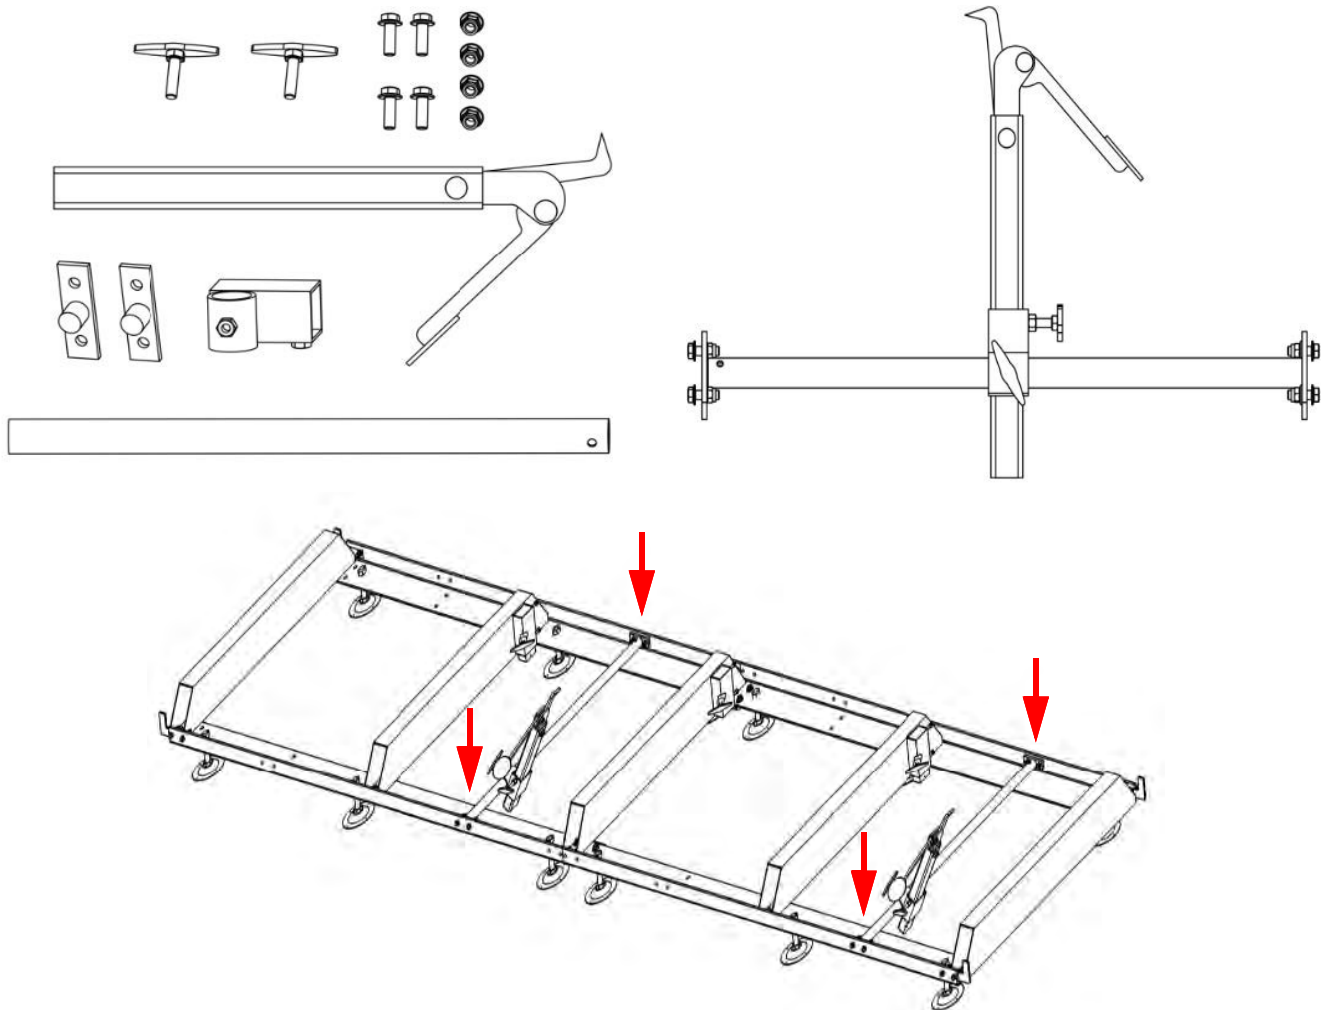

Fig.5-4: Mounting handles
4. Assemble the parts as shown below (Fig.5-4) and use suitable lubricants for the threaded handle and the T-handle.
Attach the assembly (Fig. 5-4) to the rail using the supplied bolts and nuts and tighten. Attach the locking device to the rail as shown above (Fig. 5-4) using the 4 supplied bolts and nuts. Note that there are various locations along the rail where this assembly can be bolted. Depending on how many rail sections are used, select a position for the log clamp that will firmly secure the log against the log supports.